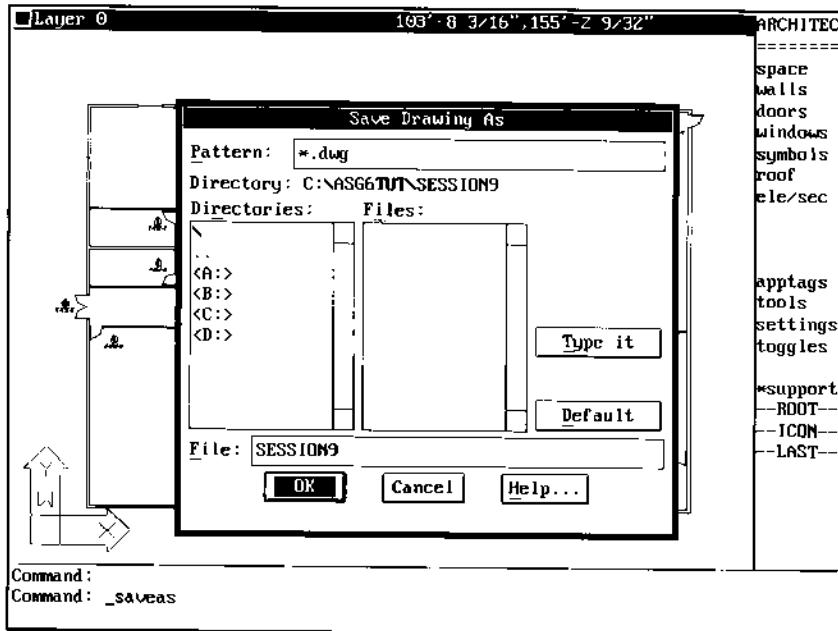

Figure 2.
4. Save the drawing as SESSION9 in the \ASG6TUT\SESSION9 subdirectory as shown in Figure 2.